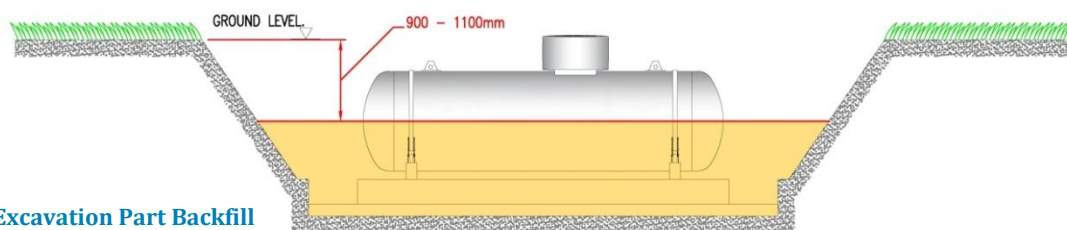

Figure 5: Excavation Part Backfill
- The excavation shall be backfilled to a point approximately halfway up the shell of the tank. The actual depth of the part backfill will vary slightly depending on the size of the tank but the remaining depth of the excavation shall be between 900mm and 1100mm as shown in Figure 5.